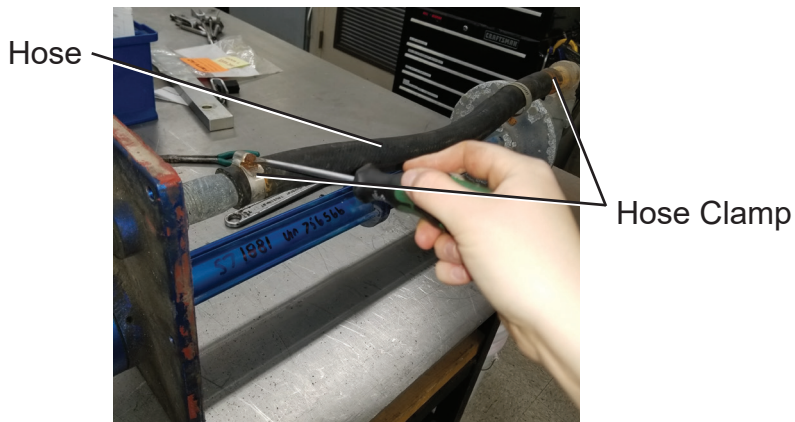

Figure 2
7. Loosen hose clamps on the top and bottom of rubber hose and remove hose, See Figure 2.